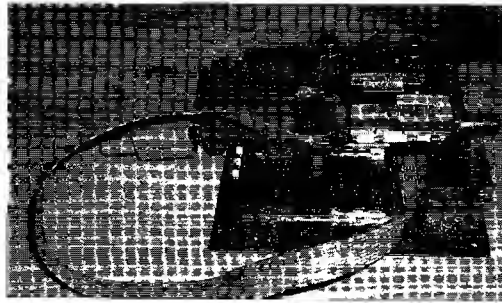

Figure 18-9: The SB5100 requires Blackcat in order to change the firmware.
1. Change the firmware by installing Blackcat into the modem's E-JTAG port, as shown in Figure 18-9. To do so you can either solder a 10-pin header into this port or use the solderless adapter that is included with Blackcat.